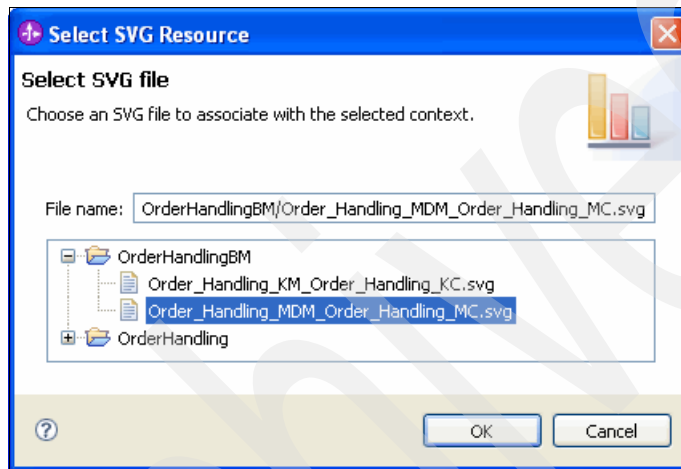

Figure 8-124 Selecting the .svg file for the monitoring context
- b. In the Select SVG Resource window (Figure 8-124), expand **OrderHandlingBM** and select **Order_Handling_MDM_Order_Handling_MC.svg**.